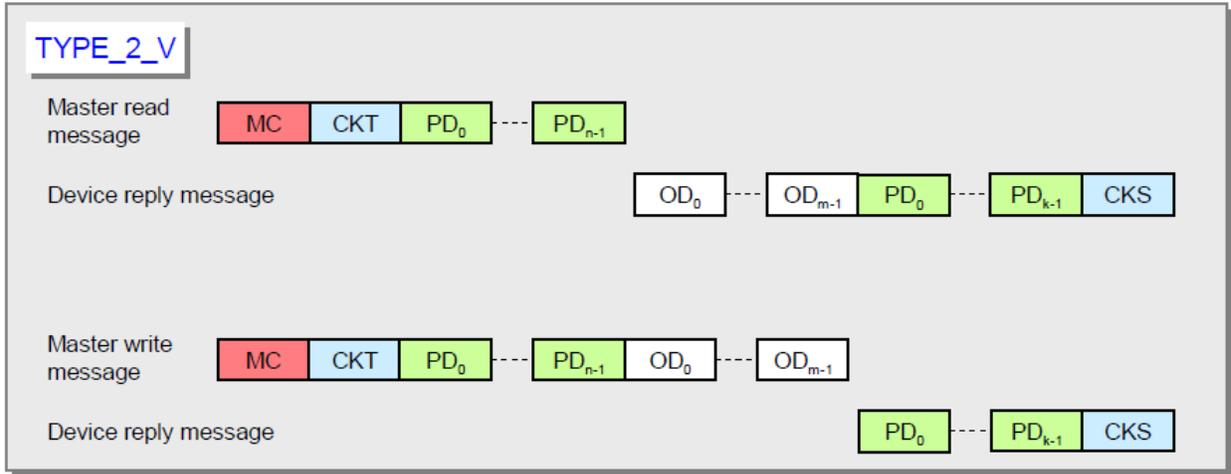

Figure 3 M-sequence TYPE_2_V
A new communication cycle begins with a message from the master followed by a response message from the device. A message is variable in length and structure. Common to all messages is the M-sequence control (MC) byte and a checksum byte (CKT/CKS). The number of process data bytes and on-request data bytes can be up to 32 bytes. A message from the master which contains maximum size of process data (PD) and on-request data (OD) takes 66 bytes. On device side the maximum size is 65 bytes. An example of message exchange between master and device is given in figure 3. Each octet is translated to a UART frame. The checksum byte on master message covers the whole message from MC to last byte of PD/OD.